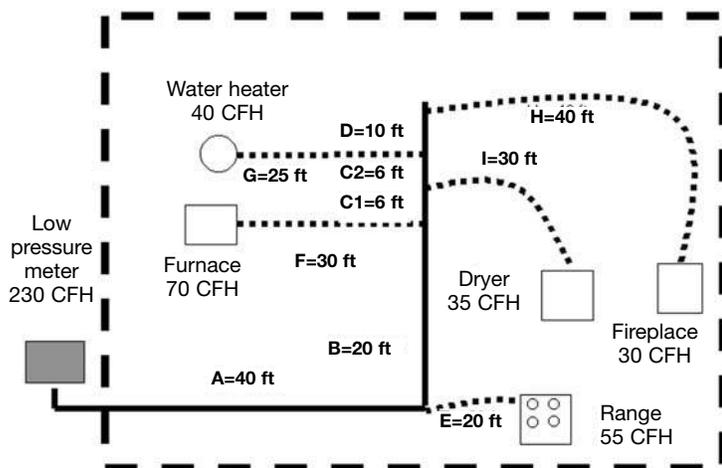
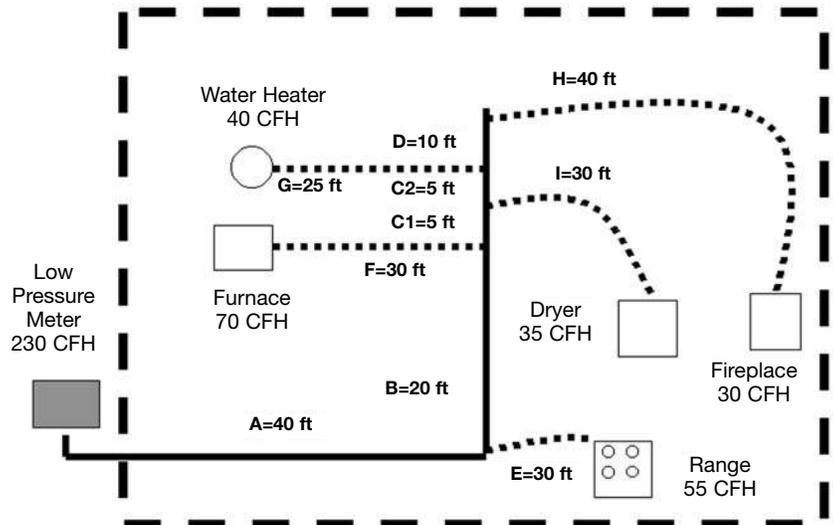

Figure 3-6
Figure 3-9
1. The system presented in figure 3-6 is a typical residence with 5 appliances. The supply pressure is 7 inches w.c. The allowable drop is 1-inch w.c. total. (black iron drop is 0.5 in. w.c. and **TracPipe** drop is 0.5 in. w.c.) Note: Check with your local inspection department and/or gas utility before sizing any low-pressure system with a total drop of more than 0.5 in. w.c.
1. The system presented in figure 3-9 is identical to that in Figure 3-6: a single-family installation with 5 appliances. Low pressure 6-7 inches and a pressure drop of 0.5 inches water column. NOTE: in